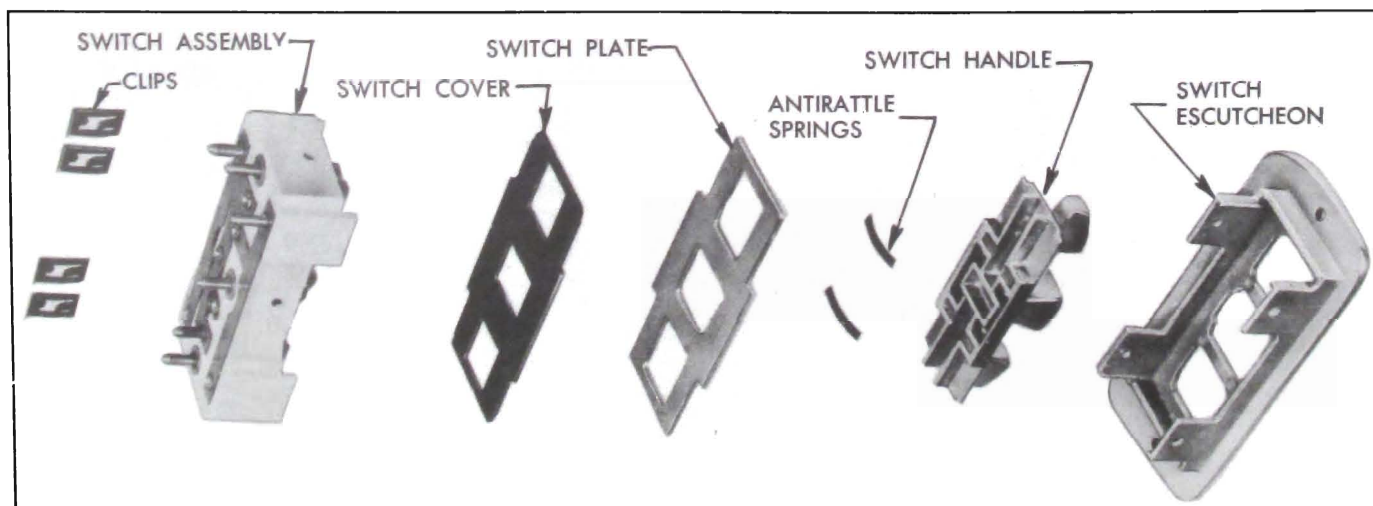

Figure 13-234—Front Seat Switch and Escutcheon
3. Remove switch from escutcheon. Component parts of switch and escutcheon assembly for six-way seat adjusters are shown in figure 13-234.
4. To install front seat control switch, reverse removal procedure. Assemble parts of the six-way seat control switch in the order shown in figure 13-234. Install clips so that tab of each clip engages hole in escutcheon.